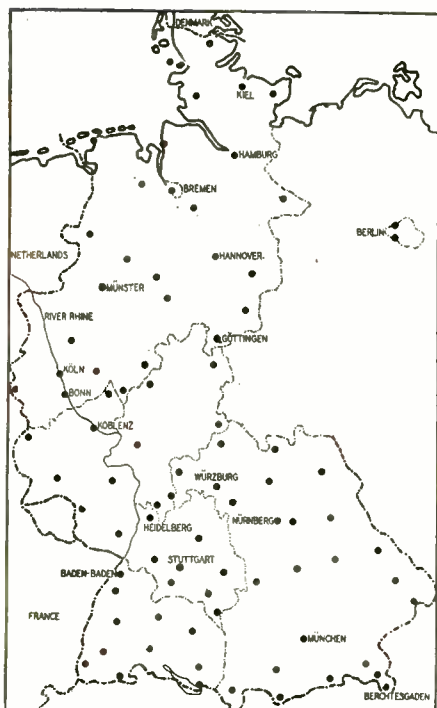

Fig. 1—Locations of stations in Western Germany's nationwide FM network.
For a conventional tuned circuit crystal oscillator, plug the crystal into terminals 1 and 3 of the octal socket, and plug a coil into 6 and 7. As seen in Fig. 1 the coil is resonated with capacitor C to the crystal frequency. This coil may be wound on a miniature 5-prong Amphenol polystyrene form (3/4-inch diameter). Three prongs of the form are cut off, leaving only pins 3 and 4. There is ample room on the octal socket for both coil and crystal.
**Fig. 1**—This circuit can check crystals or coils and measure capacitors. Tapped coil into the octal socket. The center-tap goes into terminal 1, the ends into 5 and 3. The coil may be wound over the base of a glass octal tube or an octal plug.